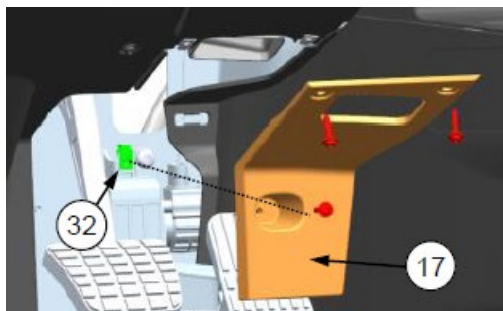

Fig. 1, Throttle Panel Removal
3. Remove the three screws that attach the dash cover throttle to the dash and the accelerator pedal assembly and remove the panel as shown in **Fig. 1**.